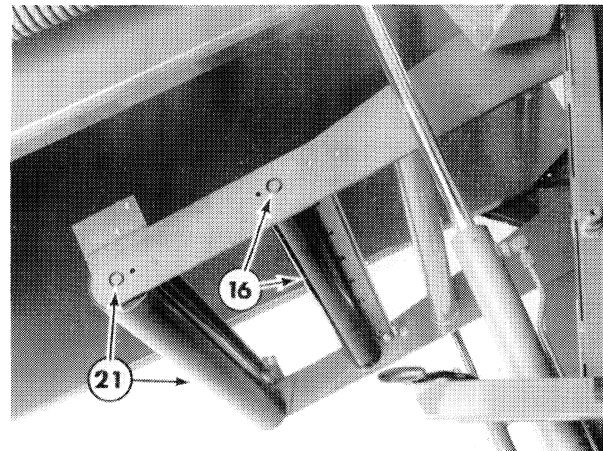

Figure 7-35
4. Raise the tailgate and secure the safety lockout. Rolls 16 and 21 can now be removed. See Figure 7-35.